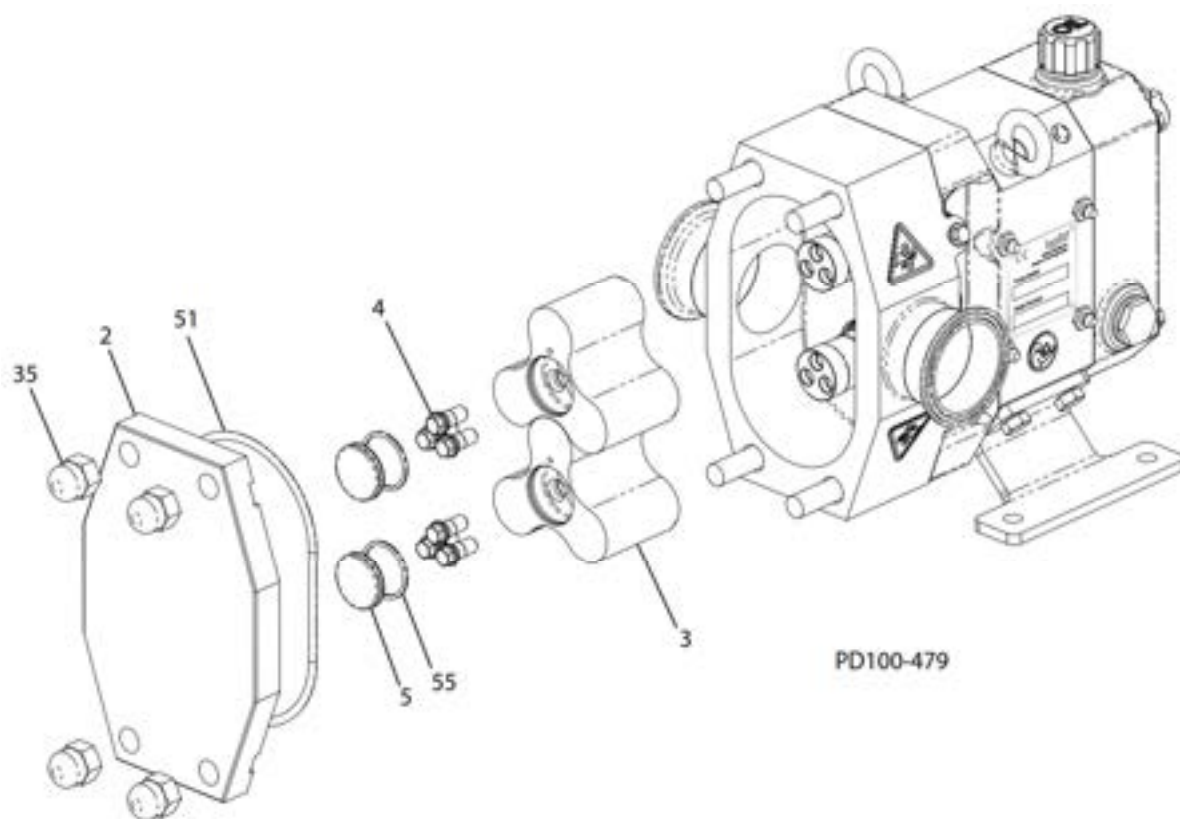

Fig. 30: Pump Cover and Rotor Removal
Tab. 4: Callout table for figure 30
1. Remove the cover acorn nuts (Figure 30, item 35).
2. Remove the cover (item 2). Cavities are provided on the mounting surface of the cover to permit removing the cover with the aid of a screwdriver.
3. Remove and inspect the O-ring (item 51).
1. Remove the screw caps (Figure 30, item 5) from the rotors (item 3). Remove and inspect the O-rings (item 55).
2. Remove the rotor lug screws (item 4). To prevent the rotors from turning while loosening (or tightening) the rotor lug screws, block the rotors following the guidelines provided in the chapter 7.6.3.: *"Rotor Blocking"*.
3. Remove the rotors (Figure 30, item 3). If the rotors cannot be removed by hand, use a twisting motion to break them free. If unsuccessful, tap the body forward using a mallet to loosen the rotors.